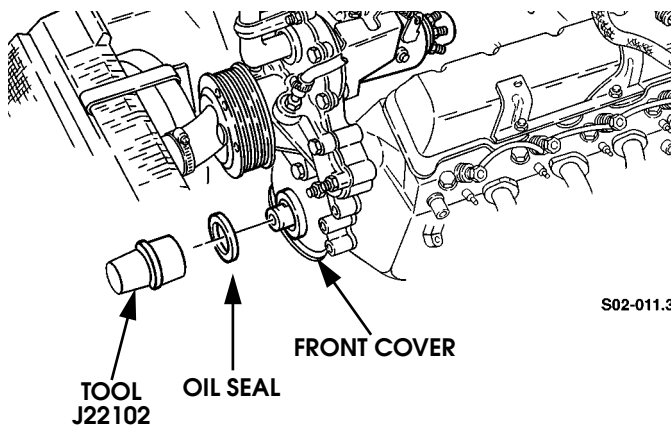

Figure 2-21: Front Cover Oil Seal Location
2. Remove oil seal front cover with tool J22102 or pry tool (Figure 2-21).